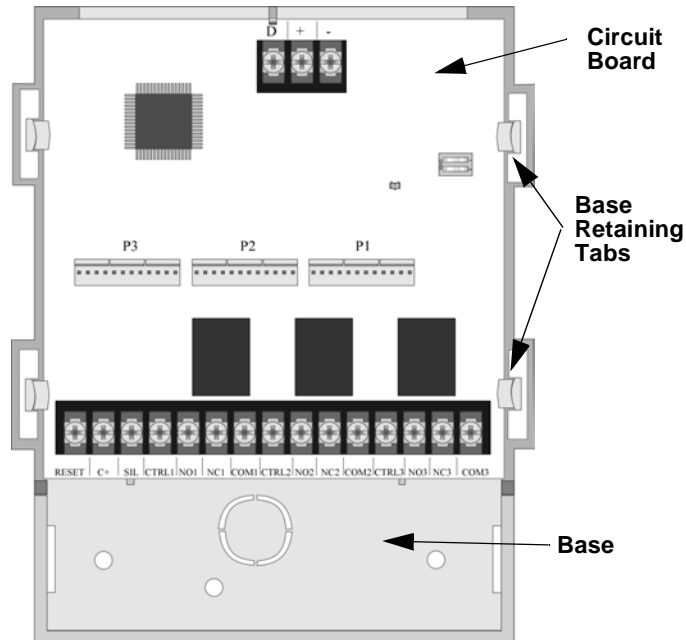

Figure 4-15 Circuit Board and Plastic Base Components
2. Remove the SK-2880 circuit board from the base by pushing outward on the base retaining tabs and lift the circuit board out. See Figure 4-15.